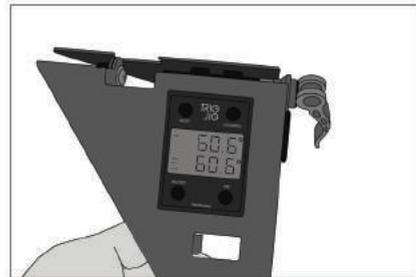

fig 15
- Loosen, adjust and tighten the Triglig as above to match the corner angle and bevel angle (**fig 15**).